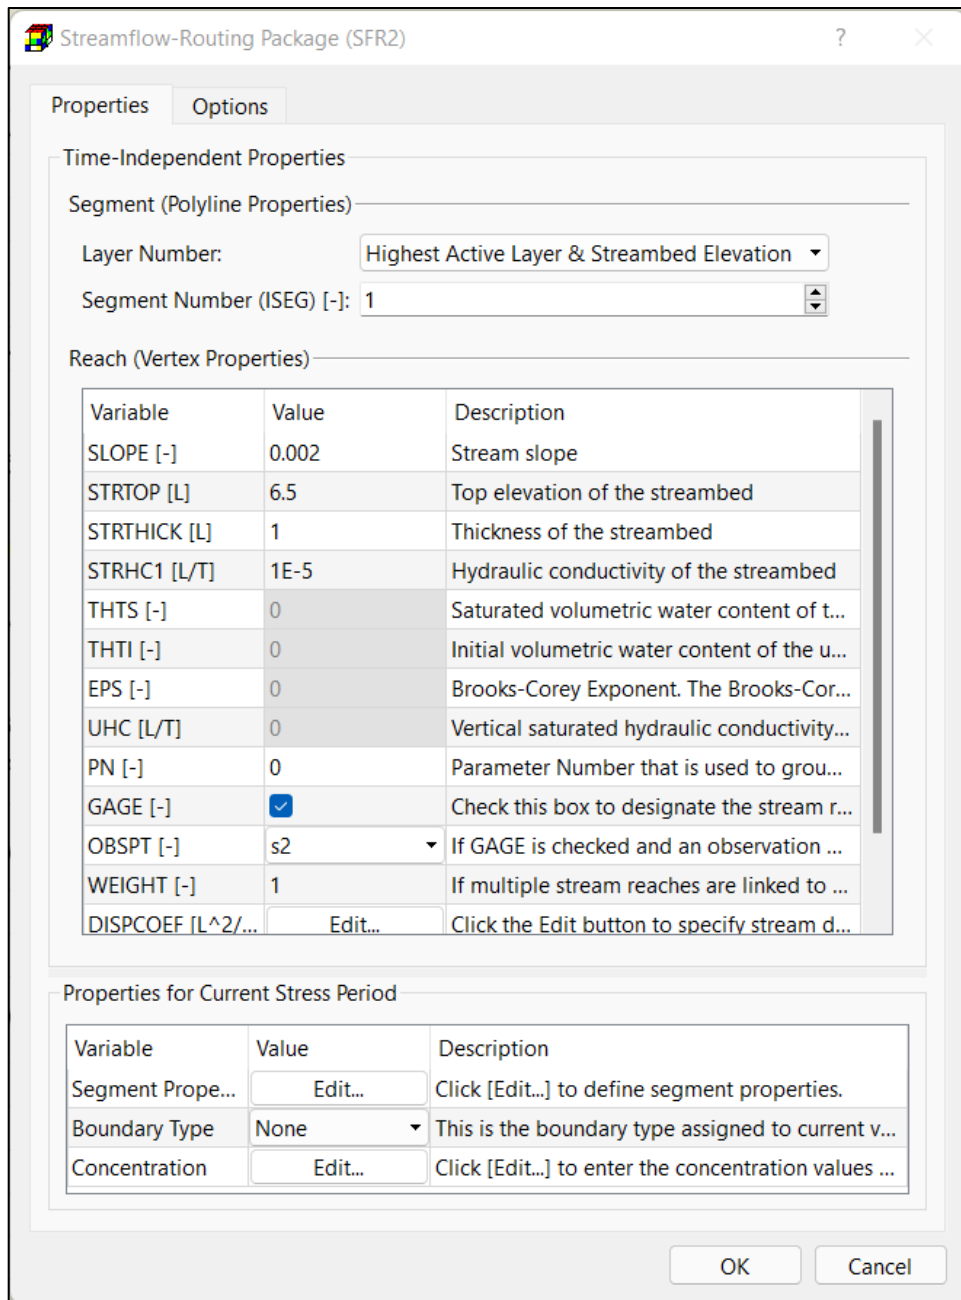

Figure 94. The Streamflow-Routing Package (SFR2) dialog box for specifying vertex properties
3. Polyline input method: Figure 94 shows the Properties tab of the Streamflow-Routing Package (SFR2) dialog box. The required data are organized in two groups as described below. Once the vertex data are specified, they may be interpolated and applied to model cells following the rules described in Section 3.4.2.2. Note that the specified values of GAGE, OBSPT, and WEIGHT only apply to the stream reach at the vertex location and will not be interpolated to reaches between vertices.